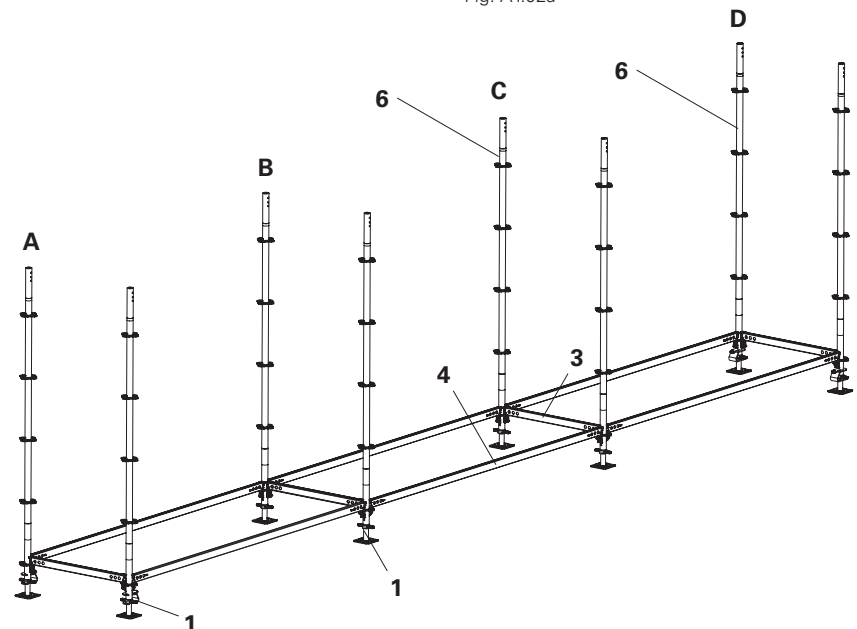

Fig. A1.03
- In the case of a span of 9 m: Fit the Top Standards UVH-2 200 (**6**) onto all frame columns. (Fig. A1.03)